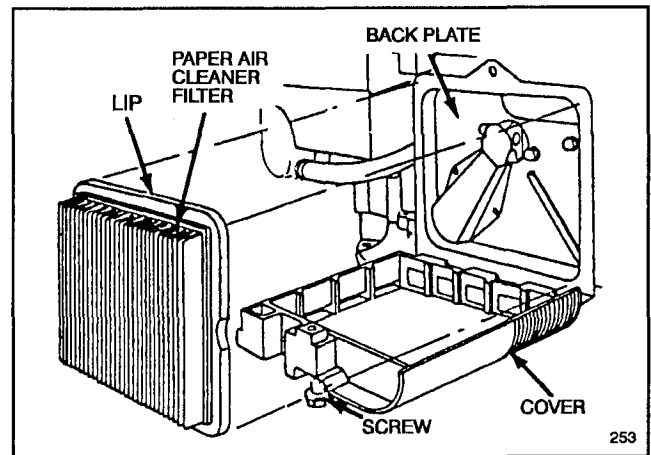

Figure 14
3. Remove paper air cleaner filter (Fig. 14) and discard.
4. Insert new paper air cleaner filter cartridge so lip touches back plate as shown in Figure 14.